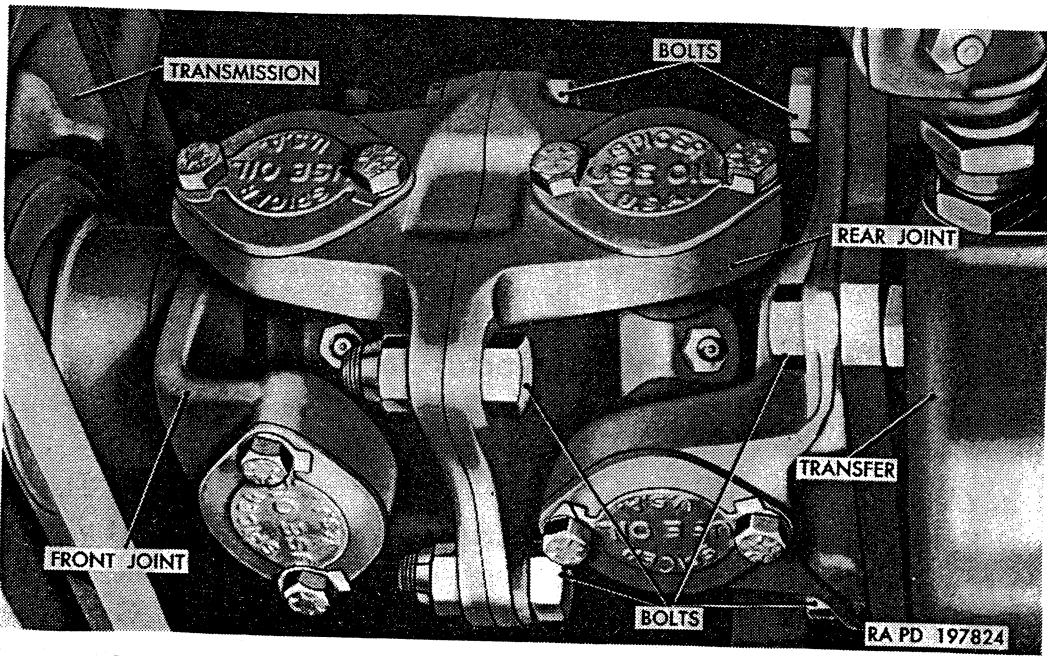

Figure 240. Transmission-to-transfer propeller shaft installed.
*c. Transmission-to-Transfer Propeller Shaft* (fig. 240). Power from transmission to transfer is through two universal joint assemblies which are bolted together, thus eliminating shaft usually used. Slip joint between transmission and transfer is through splined yoke which engages transmission output shaft.
*c. Transmission-to-Transfer Propeller Shaft Removal.* Remove four bolts and nuts attaching two universal joints (fig. 240) together; also remove four bolts and nuts attaching rear universal joint flange to transfer flange. Remove rear universal joint. Slide front universal joint toward rear and off transmission output shaft.
*c. Transmission-to-Transfer Propeller Shaft Installation* (fig. 240). Apply automotive and artillery grease (GAA) to sleeve yoke sleeve; then slide sleeve yoke over transmission output shaft, being careful that transmission rear seal is not damaged during installation. Move joint toward transmission to provide sufficient space to install rear universal joint. Locate rear joint between front joint and transfer flange with lubrication fittings in alignment; then install four  $\frac{1}{2}$ -20 x  $1\frac{3}{8}$  bolts and  $\frac{1}{2}$ -20 nuts attaching two universal joints together. Install four  $\frac{1}{2}$ -20 x  $1\frac{3}{8}$  bolts and  $\frac{1}{2}$ -20 nuts attaching rear joint to transfer flange. Tighten the eight nuts to 48 to 64 pound-feet torque.